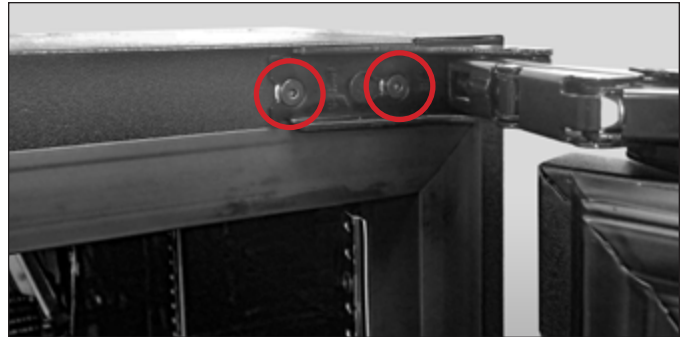

FIG. 1. The articulating hinge uses keyhole slots.
1. With a 1/8" hex head Allen wrench, loosen the cabinet hinge bolts. See fig. 1.